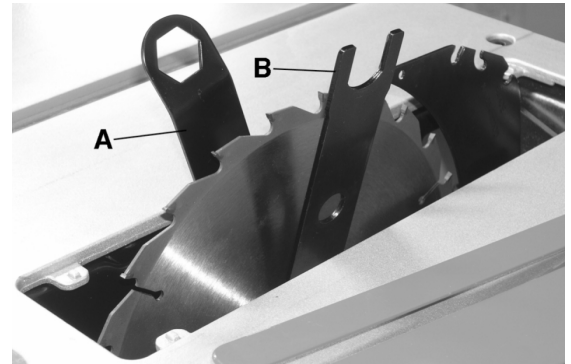
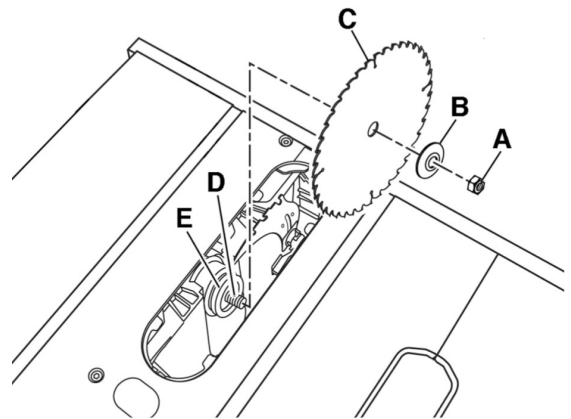

Fig. 23
Fig. 24
3. Place the open end of one of the adjustment wrenches (A, Fig 23) on the flat portion of the inside blade flange (E, Fig 24) behind the blade to prevent the saw arbor and blade from rotating. Then place the closed end of the second adjustment wrench (B, Fig 23) on the arbor nut (A, Fig 24) and turn the arbor nut counterclockwise. Remove the arbor nut and outside blade flange (B, Fig 24).
4. Place new blade on arbor (D, Fig 24) making sure the blade teeth point downwards towards the front of the table saw.
5. Replace outside blade flange (B, Fig 24) and arbor nut (A, Fig 24) on arbor shaft and tighten with arbor wrenches.